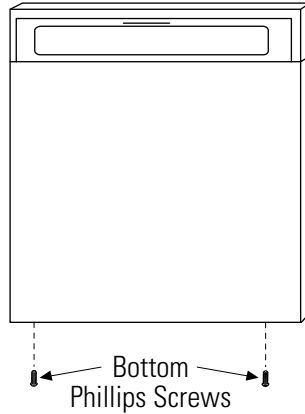

Figure 6
- Reinstall the two screws at the bottom of the door to hold the assembly to the hinge arms (Figure 6).